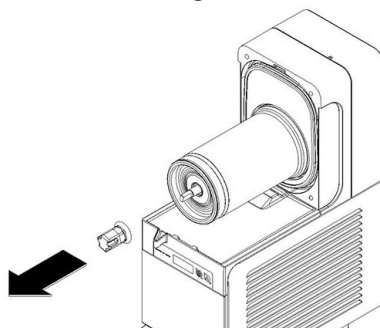

**figure 3**
**2** Remove the container by gently pushing the bottom (tap side) upwards to release the lower couplings (see figure 3) and then taking it off the